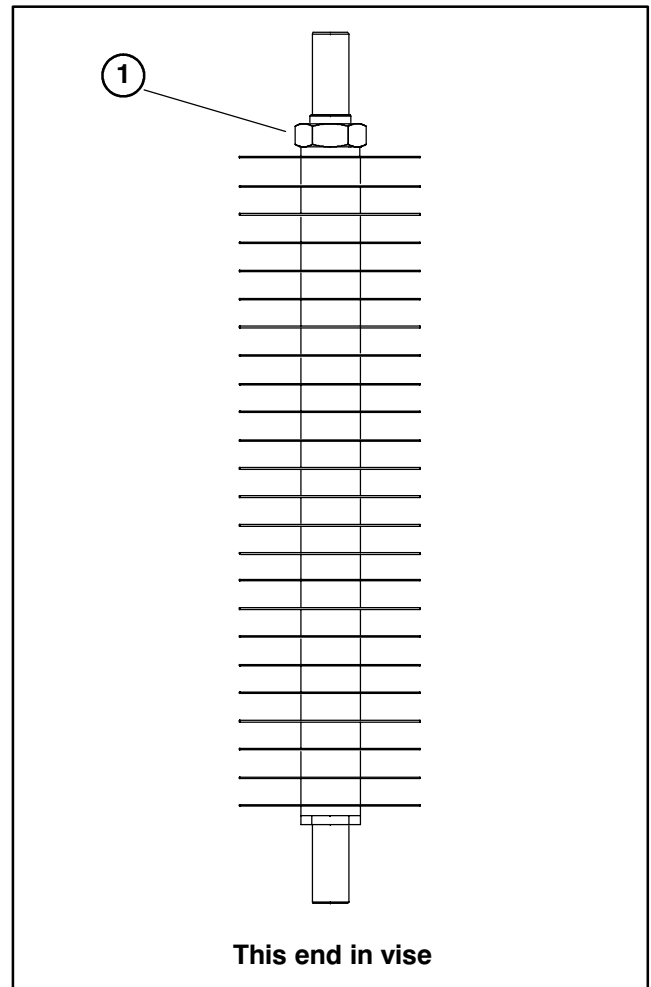

Figure 12
REMOVING DETHATCHER BLADES FROM SHAFT (Fig. 12)
2. Place the drive end of dethatcher shaft in a vise and secure (Fig. 12).